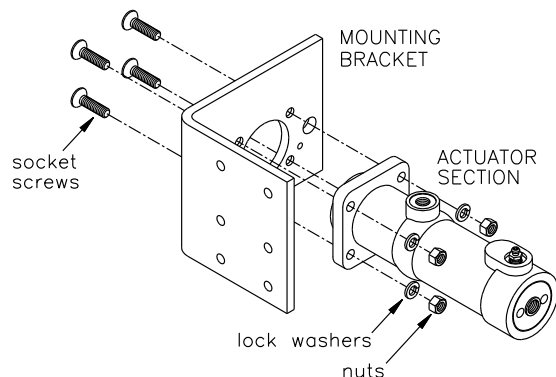

FIGURE 2
3. Separate actuator section from mounting bracket by removing four socket screws, nuts, and lock washers (Figure 2).
1. Attach actuator section to mounting bracket using four socket screws, lock washers, and nuts (Figure 2). Torque nuts 27.1-33.9 N·m (20-25 lb·ft).